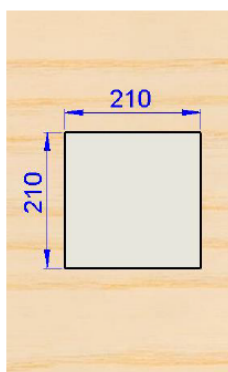
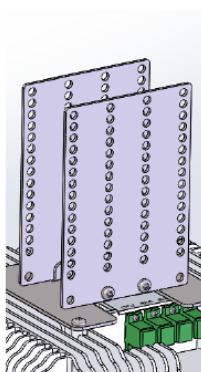
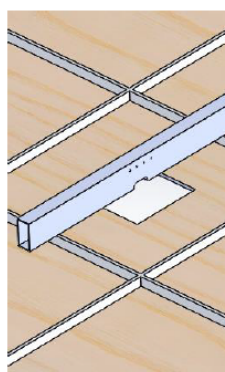
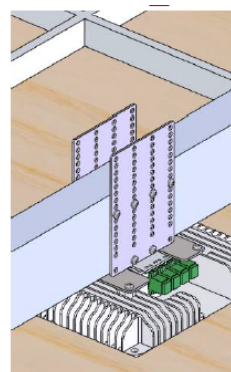

Figure 3-21
Figure 3-22
Figure 3-23
Figure 3-24
Step 1. Select an area for installation near ceiling. Drill the square holes per (Figure 3-21). Use the Screw(M4X12) to cross the pore plate and IRU-O module (Figure 3-22). Use metal wire mount the beam onto the ceiling keel (Figure 3-23). Use the Screw(M4X12) to tighten the pore plate and beam (Figure 3-24)